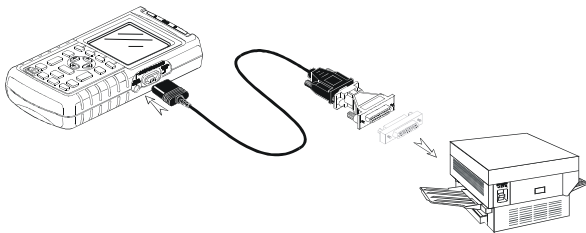

Figure 1-22. Connecting a Serial Printer
- The Optically Isolated RS-232 Adapter/Cable (PM9080) to connect a serial printer to the OPTICAL PORT of the test tool. See Figure 1-22.